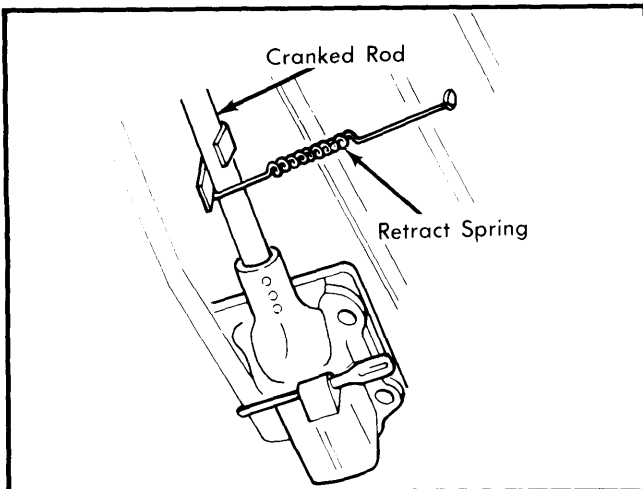

Fig. 4 Cranked Rod Retract Spring Installation
7) Insert suitable spacer between floor pan and selector rod. See Fig. 4 for spacer dimensions. Using a suitable arbor, turn shift shaft clockwise to stop. Tighten selector rod locating bolt.